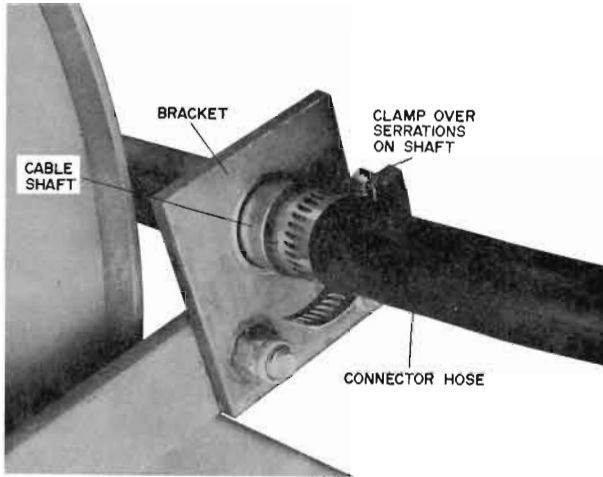

fig 2
2. Position rubber connector, item 79, over small end of control shaft and secure with hose clamp, item 78. See fig 2.
3. Assemble crank support, item 67, to snowblower with two bolts and nuts, items 101 and 39.